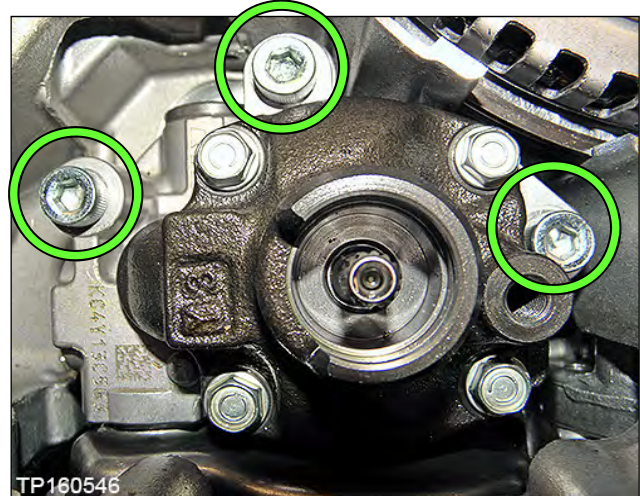

Figure 61
41. Install the new oil pump using the three original Allen®-head bolts (Figure 61).